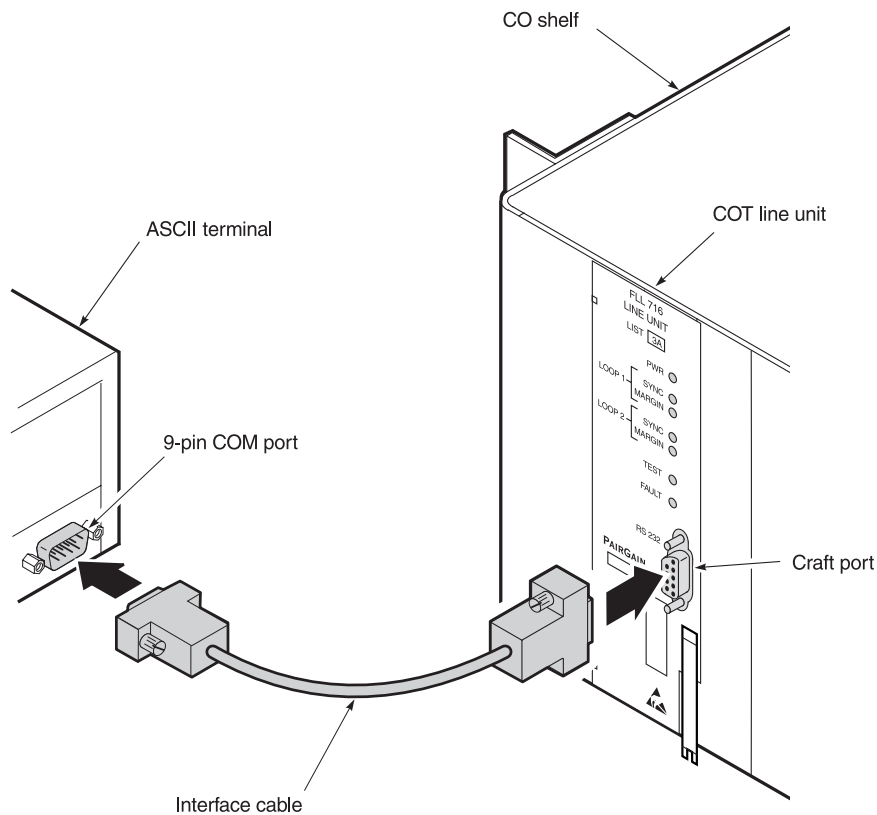

Figure 5. Connecting an ASCII Terminal to an FLL-716 List 3A Line Unit
- Connect the RS-232 cable to the appropriate system line unit (Figure 5)